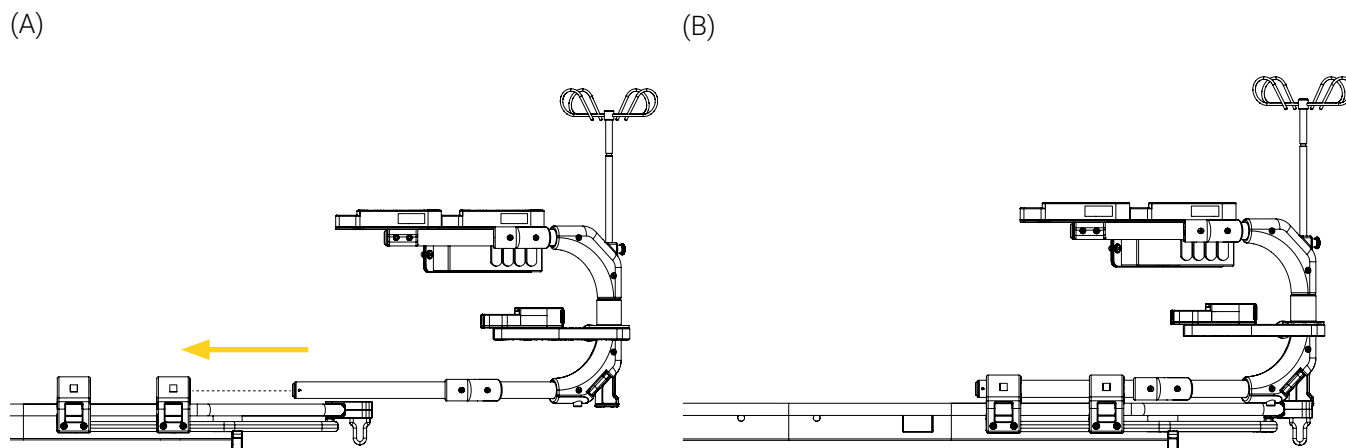

Figure 26: Installing the mobile structure in the clamp blocks
10. Insert the mobile structure in the clamp blocks (Figure 26). Refer to « Install the Mobile Structure on the Cot Support Structure » on page 19 if needed.